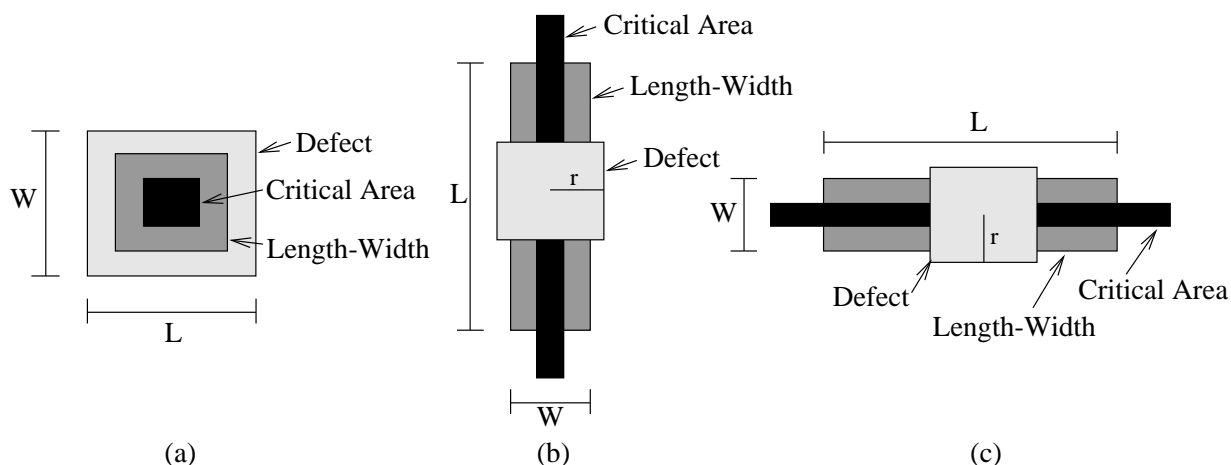
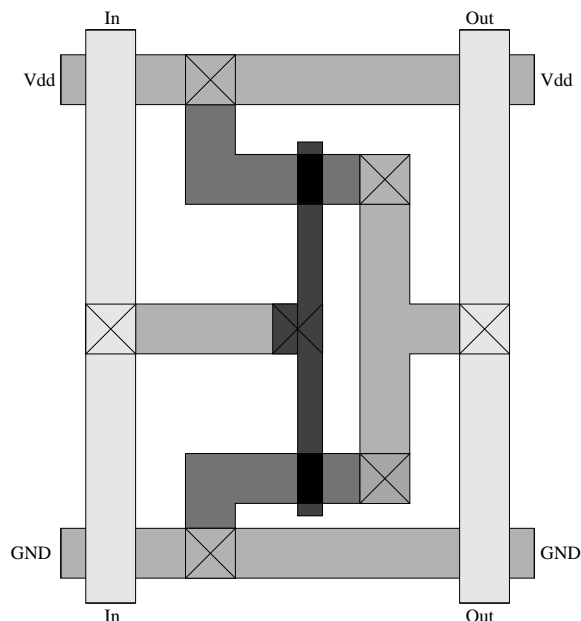
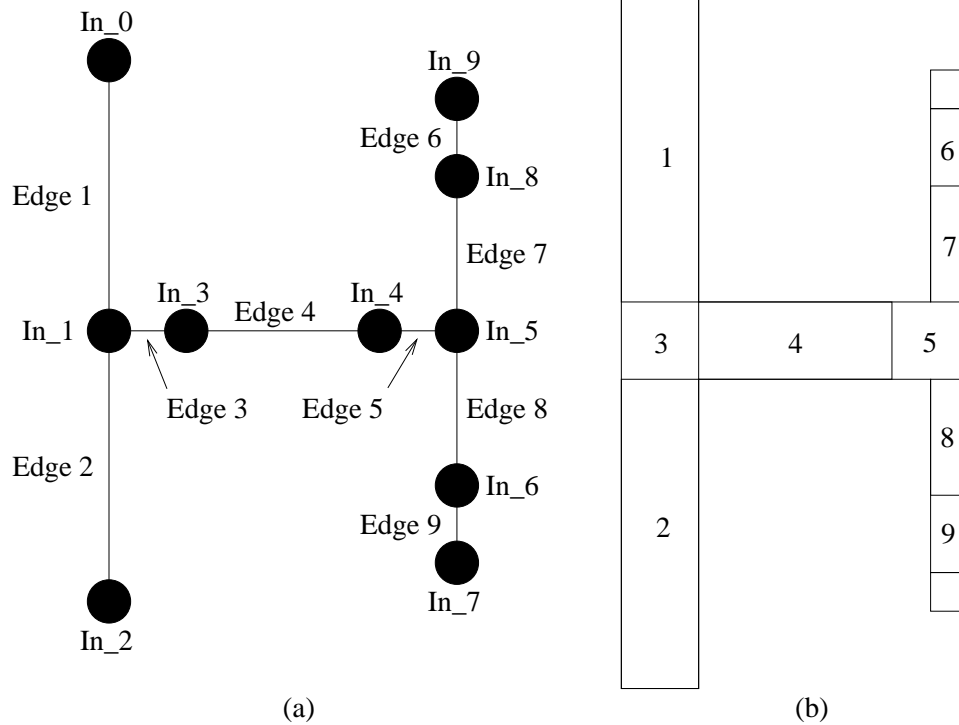
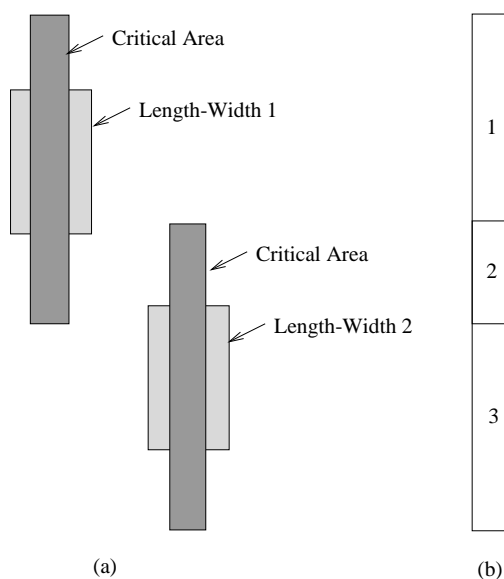

Figure 4.5: Critical areas for length-widths: (a) diagonal, (b) horizontal, (c) vertical. Note that these critical areas were computed with **fringe** on.
Figure 4.8: The layout of a typical standard-cell inverter.
Figure 4.9: Conversion of the  $In$  node to a graph: (a) the graph of the node, (b) the length-widths attached to the graph edges.
Figure 4.10: (a) Critical areas for two length-widths 1 and 2, (b) Regions formed by overlapping critical areas.
depend on the orientation of the conductive material being bridged. Figure 4.5 shows the critical areas for these length-widths.
Figure 4.8 shows a simple inverter. Figure 4.9 (a) shows the graph constructed for the `In` node and Figure 4.9 (b) shows the length-widths associated with each edge in the graph. There are three kinds of length-widths: vertical, horizontal, and inter-layer. Length-widths 1, 2, 6, 7, 8 and 9 are vertical length-widths, 4 is a horizontal length-width, and 3 and 5 are inter-layer length-widths. The critical areas for the vertical, horizontal, and inter-layer length-widths are the same as the horizontal, vertical, and diagonal length-widths shown in Figure 4.5, respectively.
Carafe reports break faults by listing the pairs of nodes that are disconnected by the breaks. For example, if length-width 1 from Figure 4.9 (b) were to cause a break, Carafe would report the following break:
Note that in Figure 4.9 (b) length-width 3 is a metal 2 contact break so it does not interact with any other fault primitives during compound fault extraction. Carafe does not
extract break primitives at junctions like that in Figure 4.9 (b) where vertex  $In_1$  is located. Instead, Carafe depends on the critical areas from breaks around the junction to overlap in order to detect the break. Figure 4.10 shows the two critical areas for length-widths 1 and 2 from Figure 4.9 (a) for some defect size. Figure 4.10 (b) shows the resulting overlapping critical areas. Region 1 represents the critical area for the break:
- Transistor gate bridge/breaks are reported even if nothing is separated by the break. Consider the circuit shown in Fig 4.8. Transistor bridge/breaks would be reported for both transistors even though the polysilicon on one side of the transistor is just a stub.